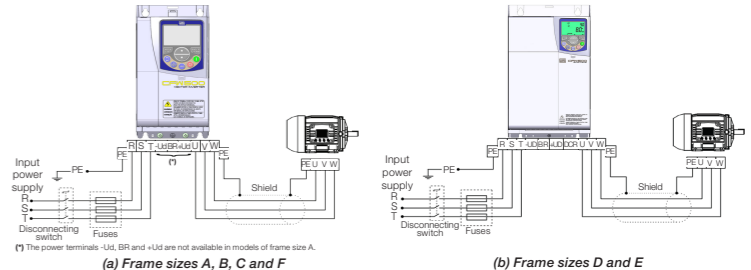

Figure 9.2: (a) Frame sizes A, B, C and F (b) Frame sizes D and E
■ In order to meet UL requirements, use ultra fast (for frame sizes A, B, C and F), and use fuse type J or circuit breaker (for frame sizes D and E) fuses at the inverter supply with a current not higher than the values presented in Figure 9.2.